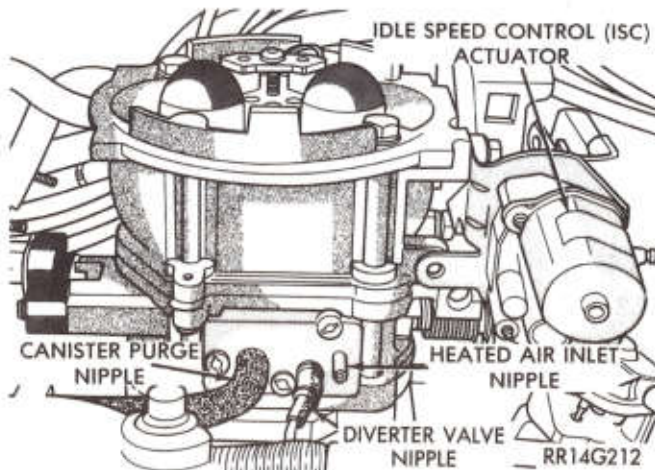
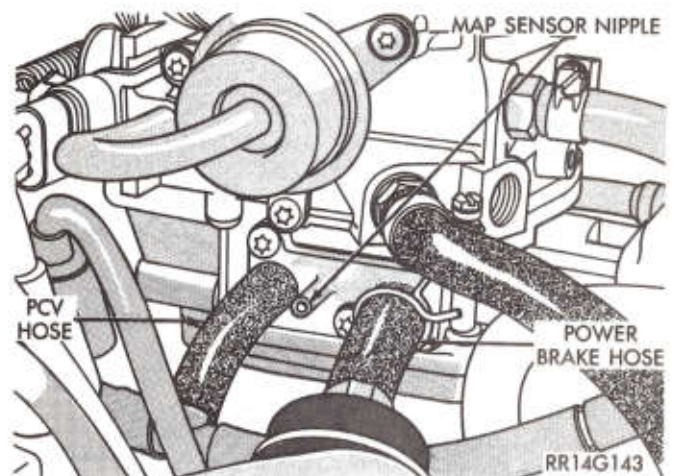

Fig. 16—Throttle Body Vacuum Ports—Front
Fig. 17—Throttle Body Vacuum Ports—Rear
(24) Verify that vacuum connections on the front and rear of Throttle Body are secure and not leaking (Figs. 16 and 17).
(25) Verify that heated air door vacuum connection is connected and not leaking.
(26) Verify that hose from PCV valve is securely attached to the manifold vacuum port (Fig. 17).
(27) Verify power brake and MAP Sensor vacuum connectors are attached to vacuum ports (Fig. 17).